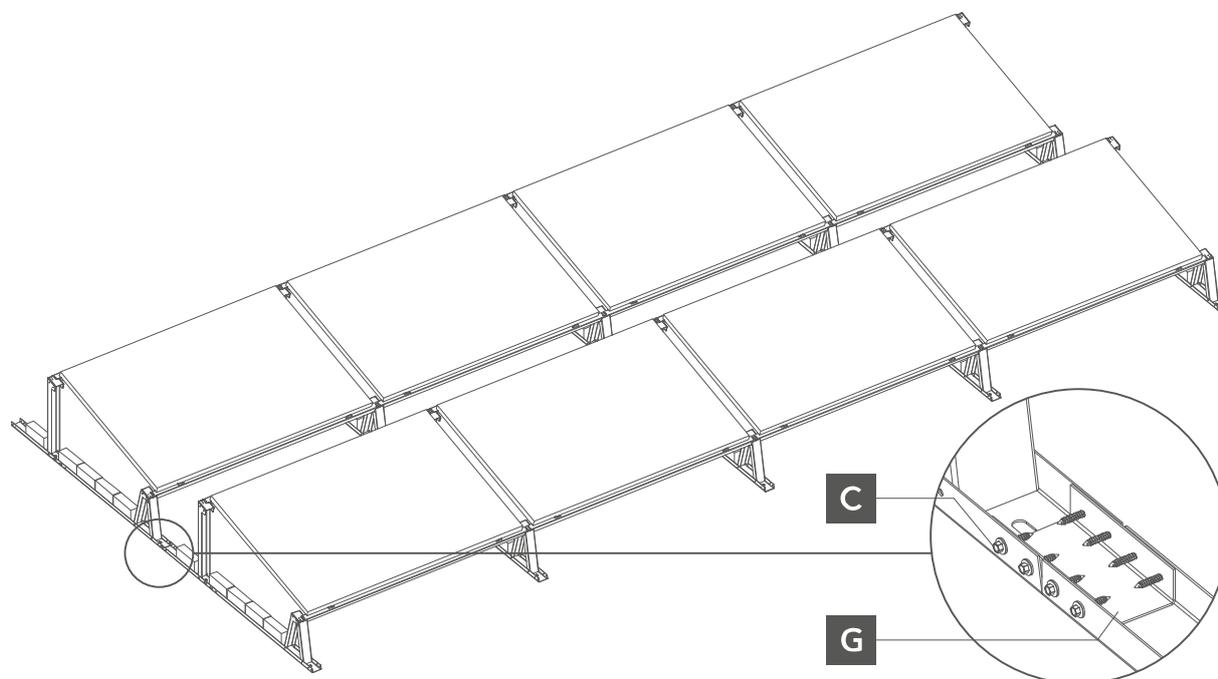

Fig. 5. connecting the mounting triangles with a protractor.
- 4** If there is more than one row of photovoltaic panels, the mounting triangles must be connected with a protractor (Fig. 5).